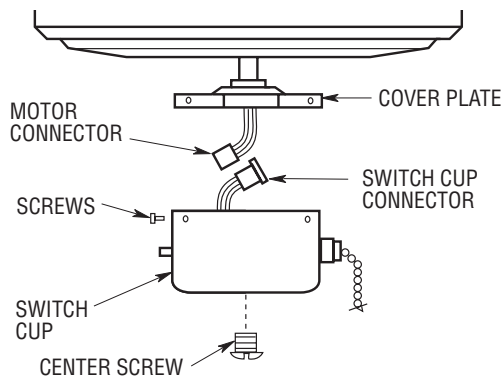

Figure 1
- Remove the switch cup from the cover plate by removing the three screws around the side of the switch cup (Figure 1).
- Disconnect the motor connector from the switch cup connector (Figure 1).
- Remove the center screw from the switch cup (Figure 1).